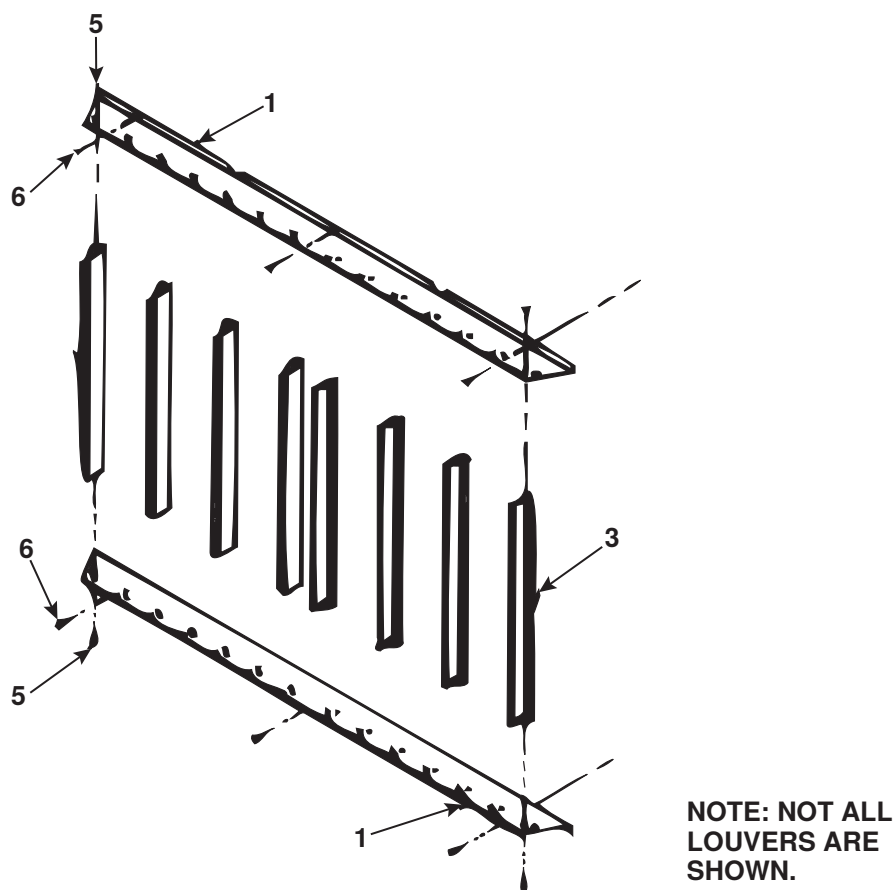

Figure 31. Vertical Louver Assembly—RA and RAD Models, Unit Sizes 110, 140, and 235 (Refer to Table 22)
- The vertical louver assembly for RA and RAD models—unit sizes 110, 140, and 235—is shown in Figure 31.